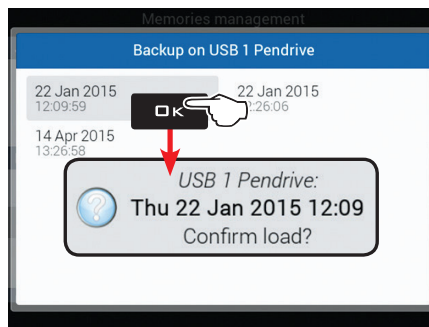

Fig. 286
- Select backup folder to load (Fig. 286) and press **OK**.